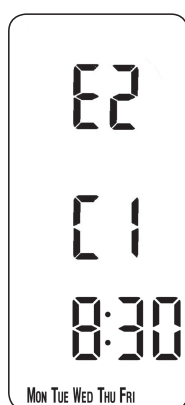

Fig. 24
- c) Press the **NEXT** button to move to the next preset time (Event 2) (**Fig. 24**).